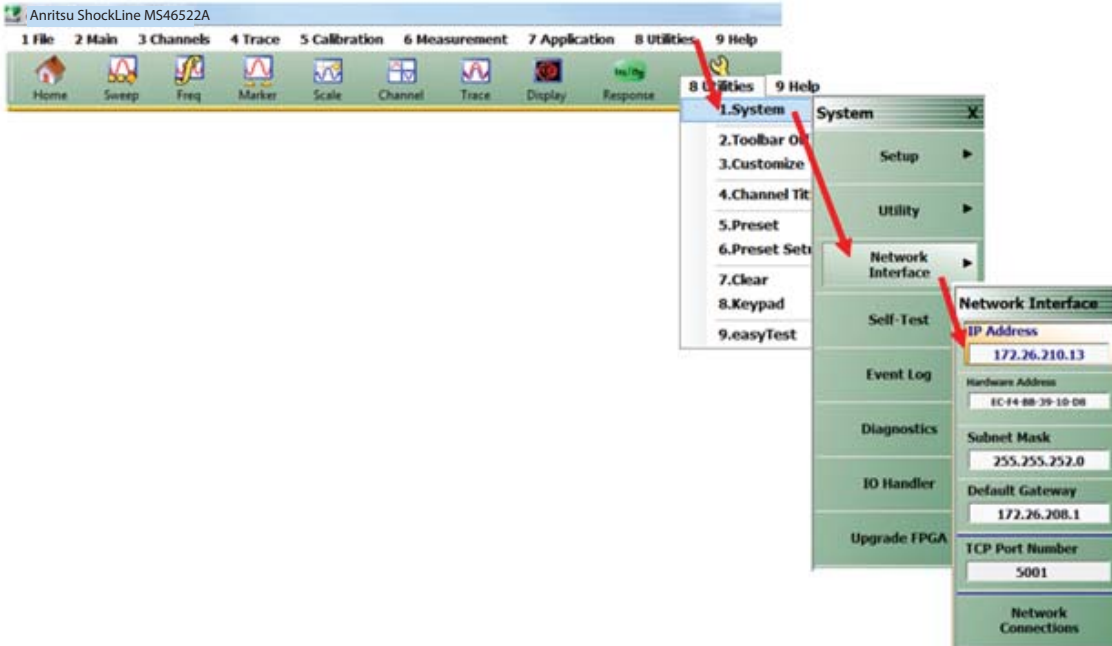

Figure 1-6. IP Address Menu Navigation Path
9. Navigate to the IP Address in the Network Interface menu. See Figure 1-6